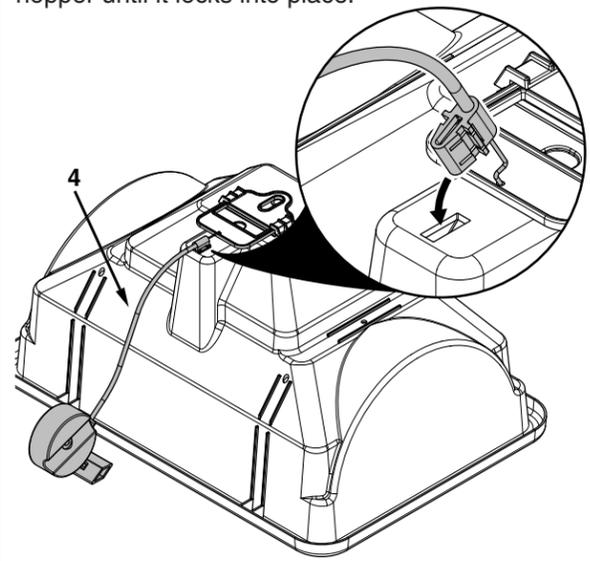

Figure 2
STEP 2 (SEE FIGURE 2): Attach the control cable (4) to the hopper (1) by inserting the end of the cable through the hold in the flow plate (9) and pressing the plastic anchor firmly into the slot in the hopper until it locks into place.